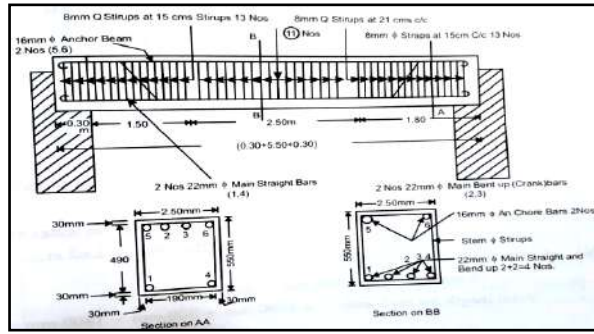

Fig.3
- B) Prepare the bar bending schedule and total weight of mild steel for R.C.C. beam shown in fig.3.